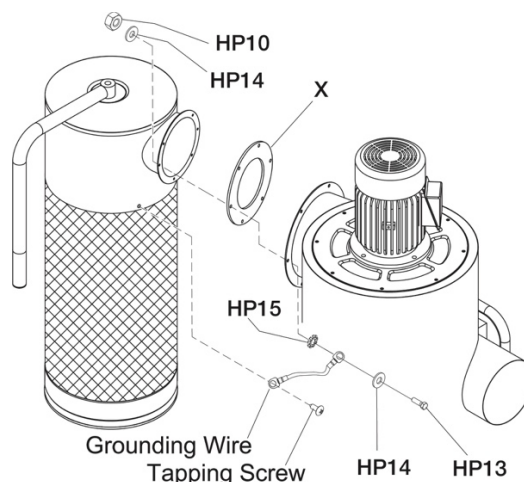

Figure 9
10. Place gasket (X) between canister filter and main housing. Install canister filter onto main housing using the hex cap screws (HP13), washers (HP14), and nuts (HP10). You must attach the canister filter ground wire to the nearest connection point as shown in Figure 9.
The grounding wire is pre-attached to the canister filter. When installing the canister filter onto the main housing, you must connect the ground wire to the main housing as shown in Figure 9. Be sure and use the star washer (HP15) when making this connection. Position the star washer (HP15), grounding wire, and flat washer (HP14) as shown in Figure 9.